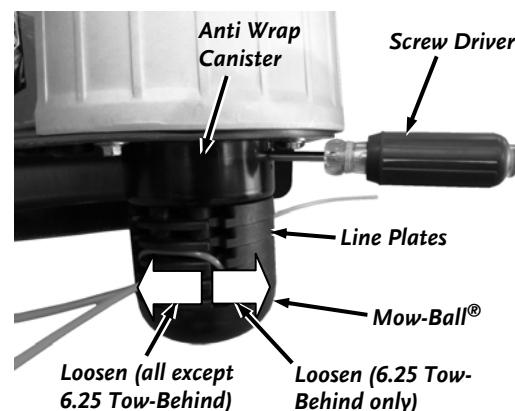

Figure 2
1. Align the hole in the Anti Wrap Canister with the hole in the internal housing at the location shown (**Figure 2**).